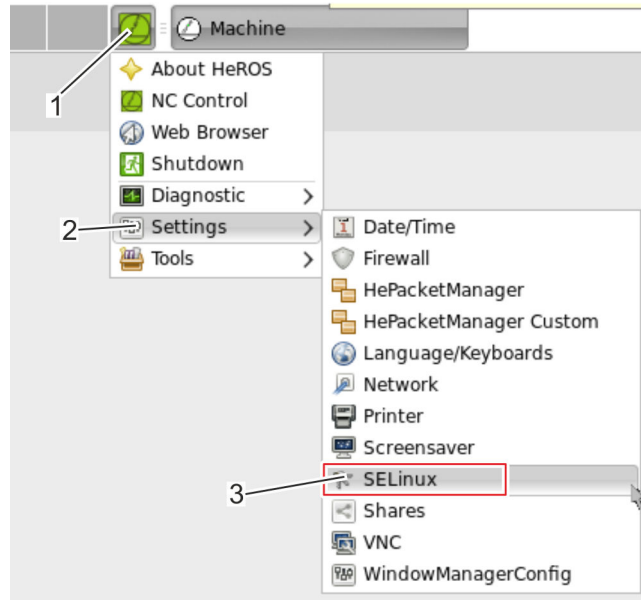

Fig. 12: SELinux security software
1. ➔ Launch the SELinux security software: Taskbar “Diadur icon (Fig. 12/1) “ Settings (Fig. 12/2) “ SELinux (Fig. 12/3).